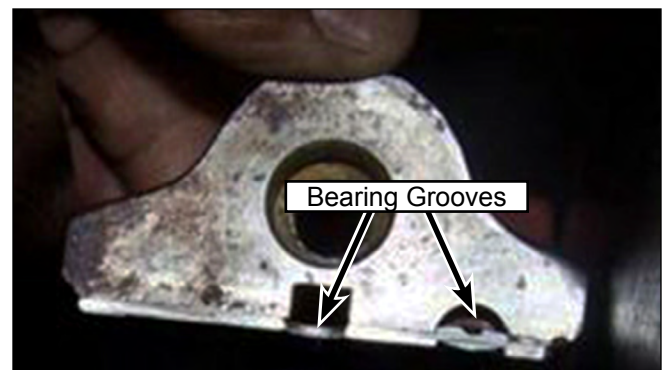

Figure 122: Proper Orientation.
The journal bearings have tabs that match the inner diameter of the connecting rods. Ensure the bearings are properly oriented in the tabs when installing (Figure 122).
4. Properly orient the grooves (Figure 122) and install the bearing in the rod cap.